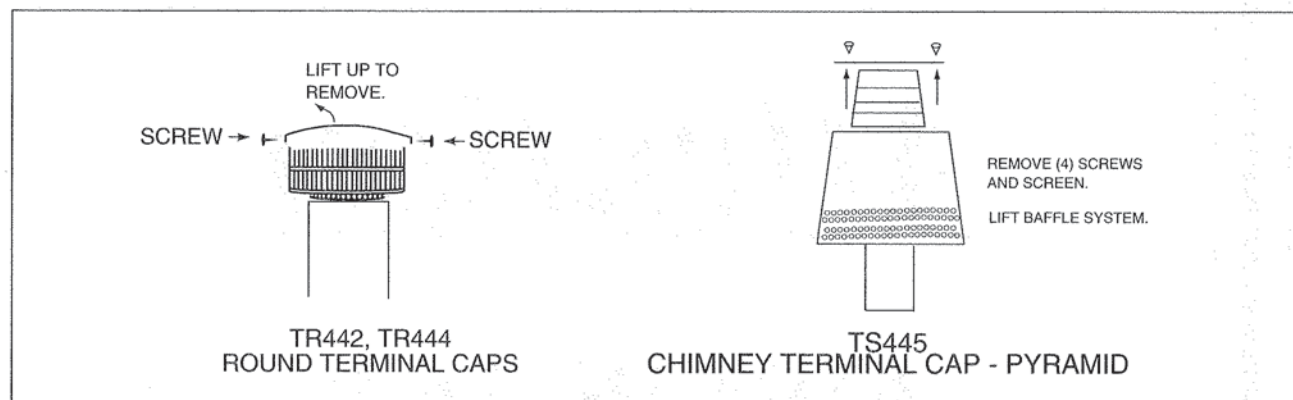

Figure 24
3. Remove the Terminal Cap or Housing Top. See Figure 24.